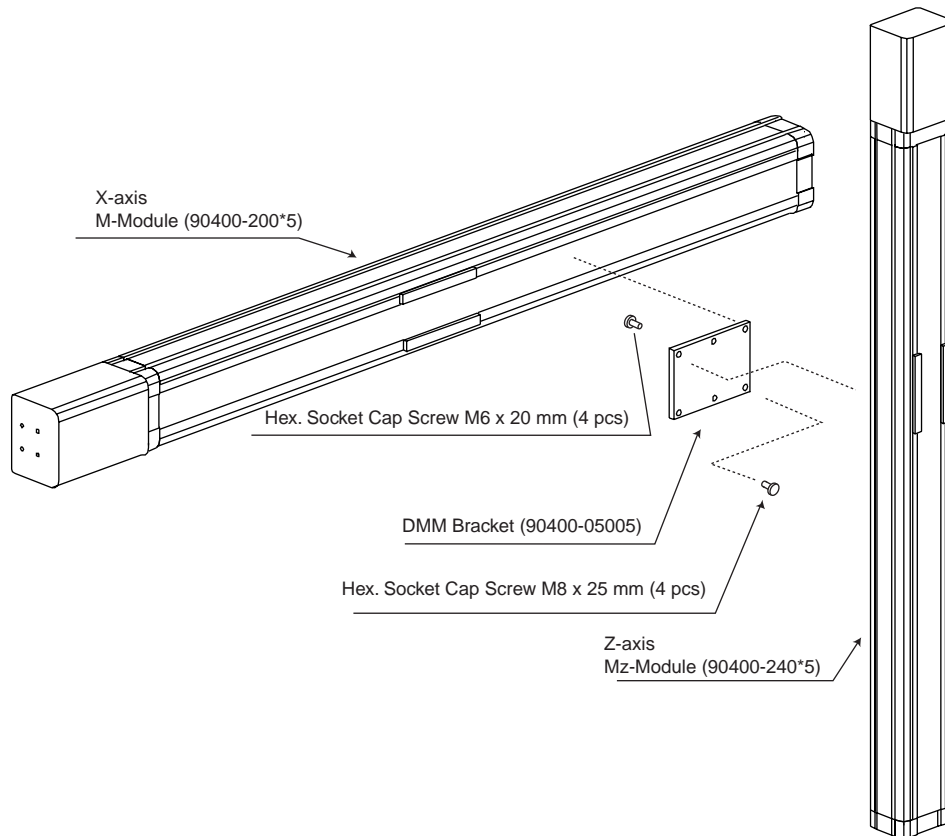

Figure 4-30. K-3 Type Mechanical Assembly
5. Mount the Z-axis to combining bracket. Install the mounting bolts (see Figure 4-30 and refer to Table 3-3 for mounting bolt specifications).